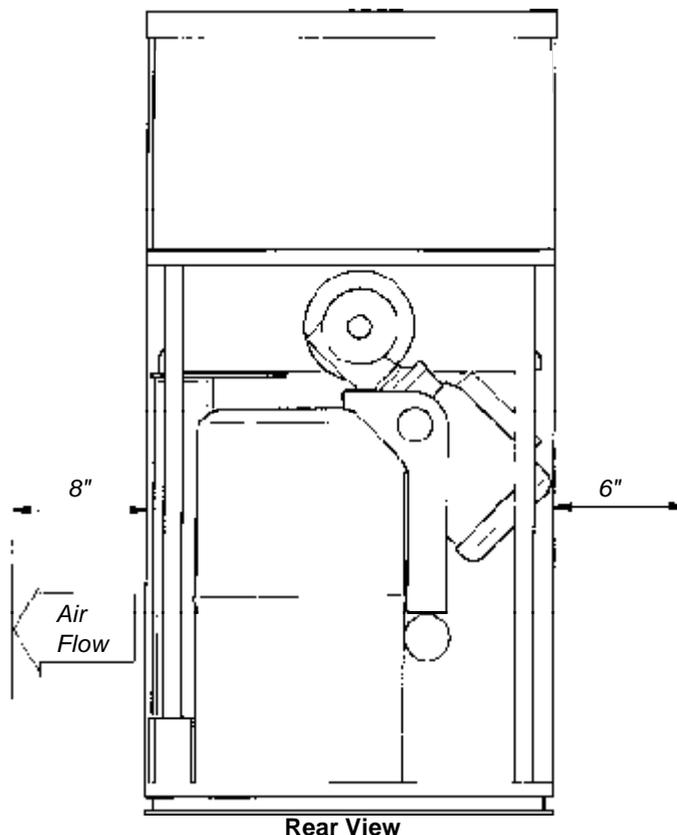

Figure 1
- 2) The freezer is now ready to be positioned onto your counter. The counter must be capable of supporting 180 lbs. and should be vibration free. Reinforce it, if necessary. Remember when choosing a location, if your unit is air cooled, proper air flow will need to be maintained. Allow at least 8 inches on left side and a minimum of 6 inches between the right side of the machine and any obstruction. (Ref. Fig. 1).